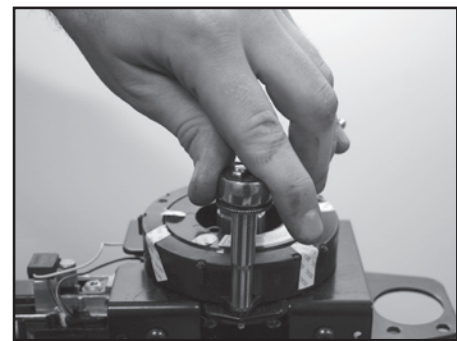

Figure 1
2. Using a 1/4" socket, or standard-tip screwdriver remove (2) screws securing clockspring (P/N 455068) **Figure 1**